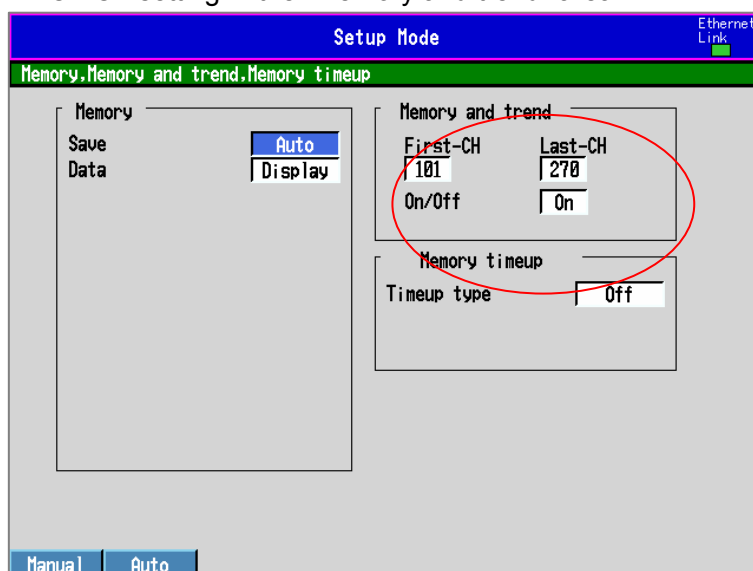

Fig. 2.1 Memory save/Trend display setup screen
- When selecting the [#2] soft key, the screen shown in Fig. 2.1 will appear. Make the On/Off setting in the “Memory and trend” area.